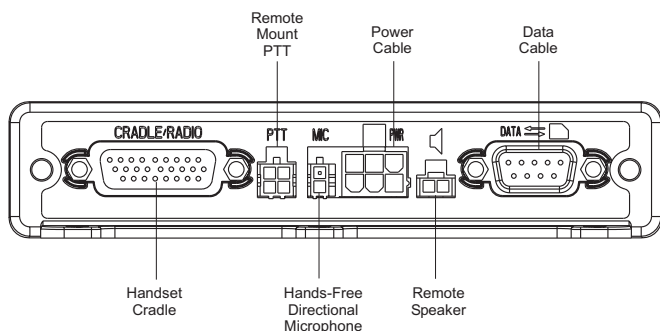

Figure 6. Junction Box - Accessories Connection Diagram
3. Connect the cable into the junction box (see Figure 6).
3. Connect the cable to the junction box (see Figure 6).